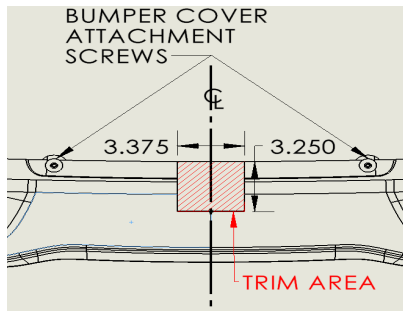
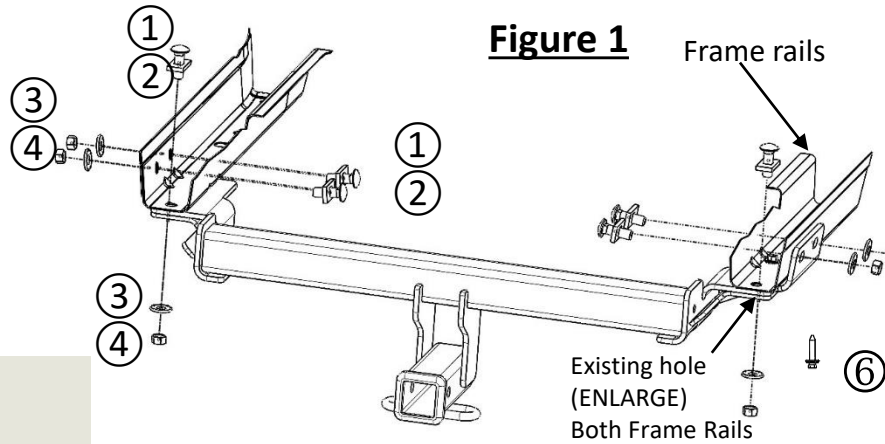

Figure 2
Figure 1
- 4. Enlarge access hole**-remove the (6) plastic hole covers- if present and using a die grinder, enlarge the rearward most holes in the bottom of the frame to allow the supplied carriage bolts and spacers to pass through.
- 5. Trim fascia**-locate the center of the fascia. Using a tape measure, marker, and utility knife, cut a notch in the bottom of fascia approximately 3.375" wide by 3.25" tall. See Figure 2. **Note: be sure area is clear of all electrical wiring before trimming. (See Website for Hands free Sensor vehicles cutting.)**
- 6. Bend exhaust bracket**-With a pliers, bend the (2) small locator tabs flat on each exhaust bracket or remove entirely.
- 7. Install hitch**- fish wire all (6) 1/2 " carriage bolts and spacers (ITEM 2) through the enlarged hole into position as shown in **Figure 1** and raise the hitch into mounting position with main body on the rearward side Pull downward on the rear bumper cover +5" to accomplish getting the hitch in position. Remove the fish wires and install the (6) 1/2" hex nuts provided.
5. Trim fascia-locate the center of the fascia. Using a tape measure, marker, and utility knife, cut a notch in the bottom of fascia approximately 3.375" wide by 3.25" tall. See Figure 2. Note: be sure area is clear of all electrical wiring before trimming. (See Website for Hands free Sensor vehicles cutting.)
6. Bend exhaust bracket-with plier, bend the (2) small locator tabs flat on each exhaust bracket or remove entirely.
7. Install hitch- fish wire all (6) 1/2 " carriage bolts and spacers (ITEM 2) through the enlarged hole into position as shown in Figure 1 and raise the hitch into mounting position with main body on the rearward side Pull downward on the rear bumper cover +5" to accomplish getting the hitch in position. Remove the fish wires and install the (6) 1/2" hex nuts provided.